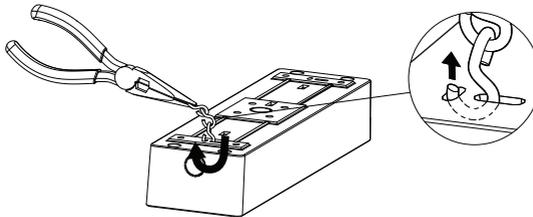

Figure 6: Razor Exit and jack chain assembly
- Using pliers clamp the jack chain and thread through the Razor SM kit as shown in the **Figure 6**.
The top of the Razor must be cable mounted by threading the cable through the correct mounting hole as shown in **Figure 6**. Once securely mounted the Razor may be assembled by sliding the body into place.